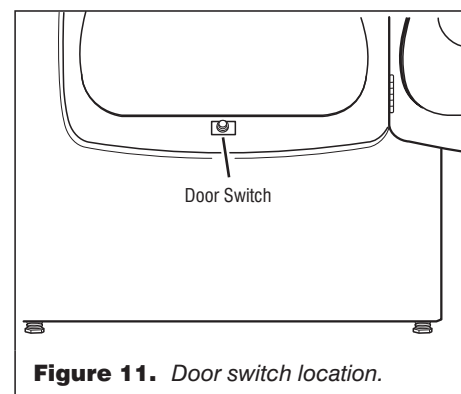

Figure 11. Door switch location.
- Check that the wires between the door switch and machine control electronics are connected. See figure 11 for switch location and see Removing the Front Panel/Drum Assembly, page 11.